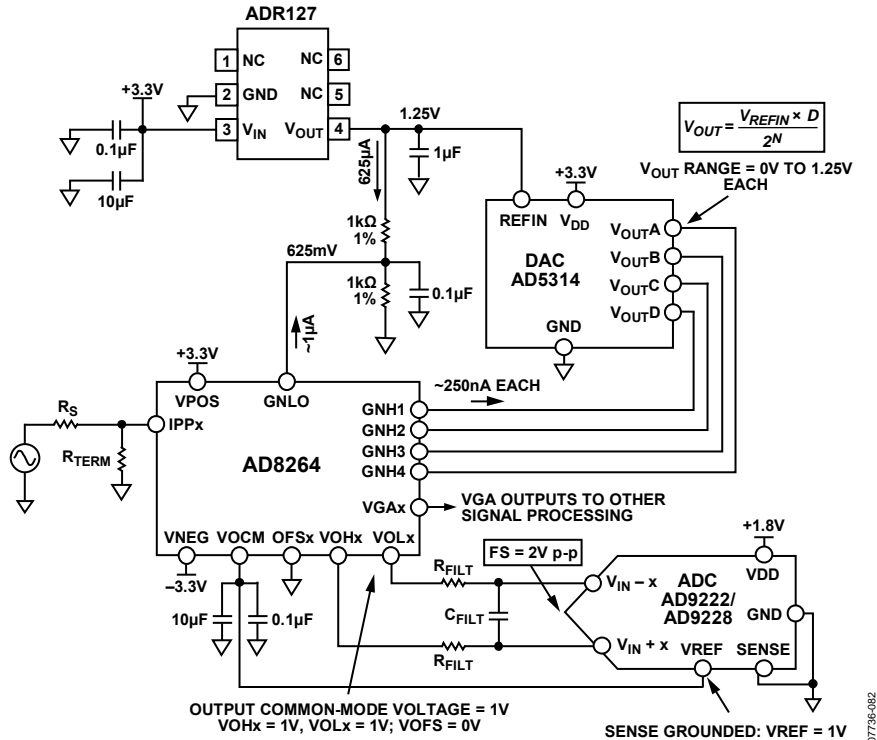
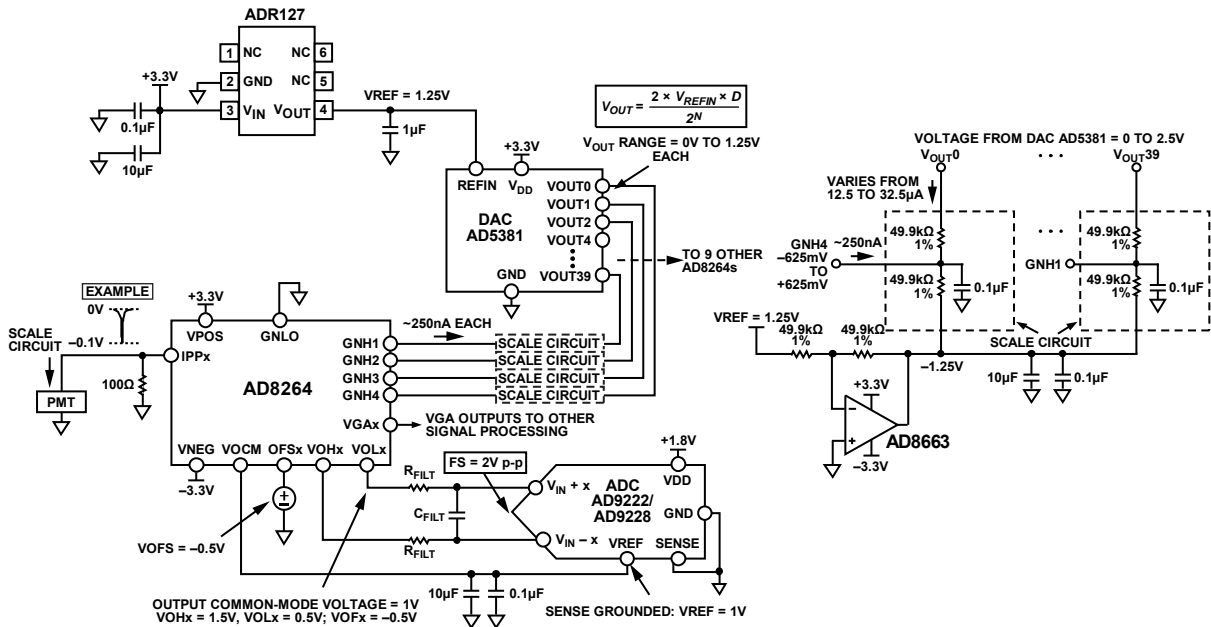

Figure 112. Application Concept of the AD8264 with the AD5314 10-Bit DAC and the AD9222/AD9228 12-Bit ADC
Figure 113. Concept Application of AD8264 with 40-Channel AD5381 12-Bit, 3 V DAC and AD9222/AD9228 12-Bit ADC
The AD8264 is particularly well suited for use in the analog front end of medical PET imaging systems. Figure 112 shows how to use the AD8264 with the AD5314 (a 4-channel, 10-bit DAC) and the AD9222/AD9228 (an octal or quad, 12-bit ADC, respectively). The DAC sets the gain of the AD8264. Note that the full gain span of 24 dB is achieved with this setup because the gain control input range of the AD8264 is very close to 1.25 V. The GNLO pin must offset by  $1.25/2 = 625 \text{ mV}$  because the gain control input is bipolar around the voltage applied at GNLO. This is done with two 1 k $\Omega$ , 1% resistors. The approximately 1  $\mu\text{A}$  of bias current flowing from the GNLO pin does not contribute a significant error because the basic gain error of the AD8264 is the limiting factor.
Figure 112 also includes the DAC output equation, which indicates that the output can vary between 0 V and  $V_{REF} = 1.25 \text{ V}$ .
The single-ended-to-differential amplifier of the AD8264 amplifies the VGA output signal by 6 dB and can provide the required dc bias of the AD9222/AD9228, as shown in Figure 112. The ADC is connected with the default internal reference because the SENSE pin is grounded. With this connection, the AD9222/AD9228 VREF pin is an output that provides 1 V; this is then connected to the VOCM input of the AD8264, which sets the output common-mode voltage of the VOHx and VOLx pins to 1 V. This voltage is very close to the recommended optimal value of  $V_{DD}/2 = 0.9 \text{ V}$ . With this configuration, the ADC inputs are set to a full-scale (FS) of 2 V p-p.
The dc connected concept example in Figure 113 is an application with the 40-channel AD5381, 3 V, 12-bit DAC. The main difference between this example and Figure 112 is that, for the same ADR127 1.25 V reference, the full-scale output of the DAC is from 0 V to  $2 \times V_{REFIN} = 2.5$  V. Two options for gain control include the following:
- Use the same circuit as in Figure 112 but use only half the DAC output voltage from 0 V to 1.25 V. This is the simplest solution, requiring the fewest extra components. Note that the overall gain resolution increases by one bit to 11 bits over the 10-bit AD5314.
- Ground GNLO and scale the DAC output so that the GNHx inputs vary from  $-0.652$  V to  $+0.625$  V. Figure 113 shows a possible circuit implementation using a divider between the DAC output and a  $-1.25$  V reference.
Figure 113 shows how the AD8264 is connected in a PET application. The PMT generates a negative-going current pulse that results in a voltage pulse at the preamplifier input and a differential output pulse on VOLx and VOHx.
A convenient method of verifying and customizing the signal chains shown in Figure 112 and Figure 113 is by ordering the corresponding evaluation boards available on [www.analog.com](http://www.analog.com). The AD8264-EVALZ is a platform through which the user can quickly become familiar with the features and performance capabilities of the AD8264. See the Evaluation Board section for more information.